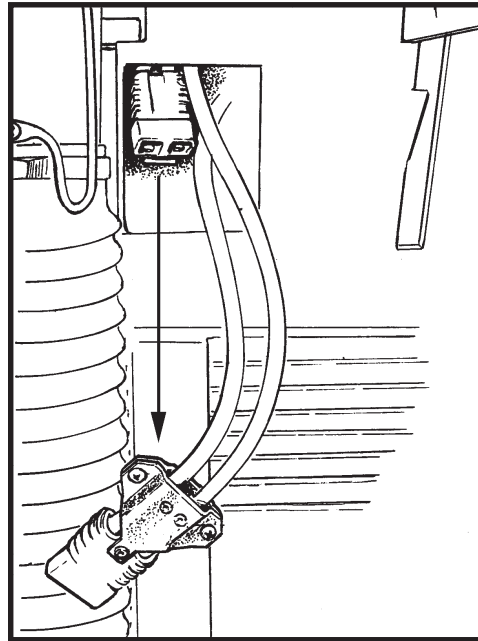

Figure 1
1. Disconnect the plug on the charger from the connector on the back of the machine. See figure 1
2. Join the connector from the batteries (1) to the control panel cable connection. See figure 1.